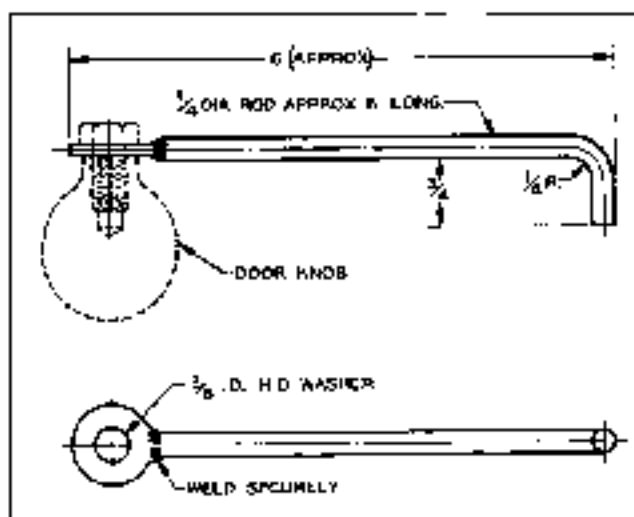

Fig. 4A-15 Differential Linking Tool
3. Insert crank (Fig. 4A-15) in companion flange and, while turning, apply pressure to back side of ring gear by hand (a leather glove can be used). A test made without loading the gears will not give a satisfactory pattern. Turn companion flange with crank so that ring gear rotates one full revolution, then reverse rotation so that ring gear rotates one revolution in opposite direction. Excessive turning of ring gear may indicate good tooth pattern because one or two teeth are making proper contact.
NOTE: The crank in Fig. 4A-15 may be easily made as follows: